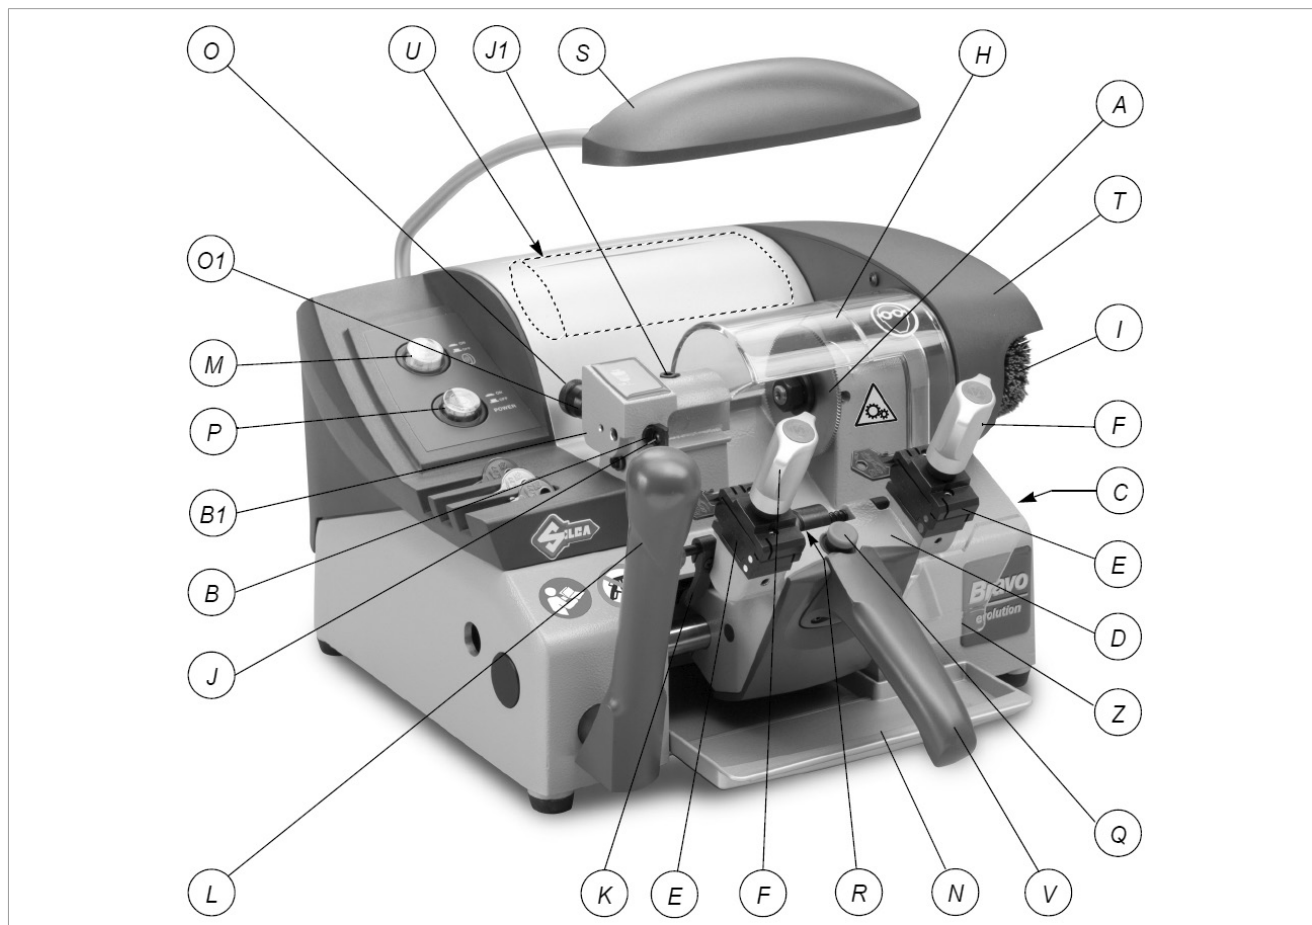

Fig. 5
The control panel with 2 controls is located on the left-hand side of the BRAVO key-cutting machine: the start-up switch for the motor (P) and the push button for the brush (M) (Fig. 5).